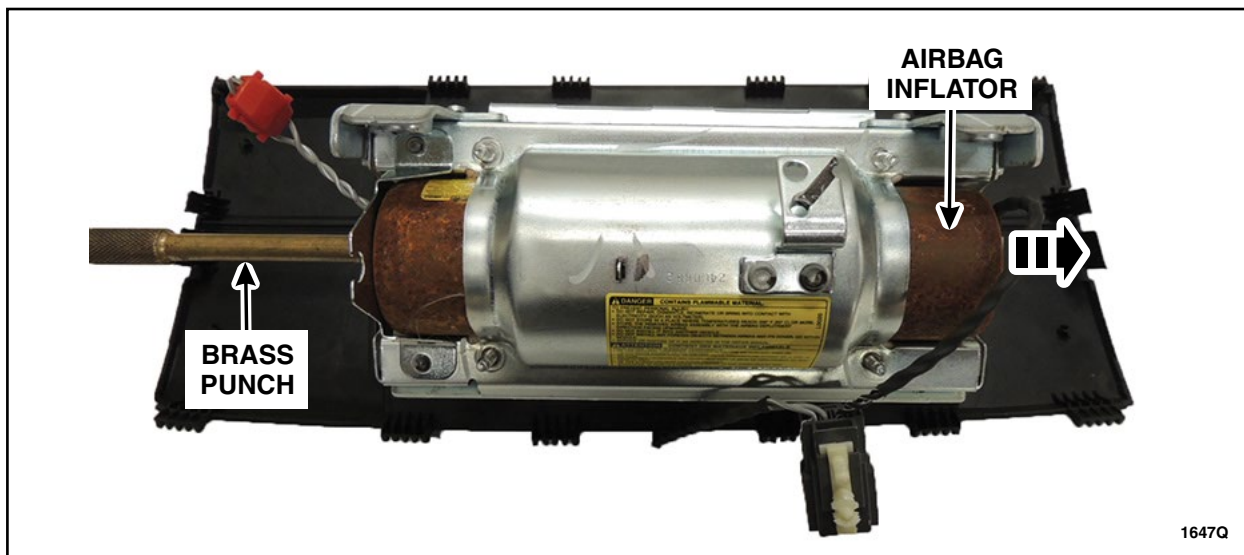

FIGURE 6
8. With an assistant holding the passenger airbag assembly, remove the inflator from the assembly by pushing outward on the inflator. Set the airbag inflator aside for return shipping. See Figure 6.